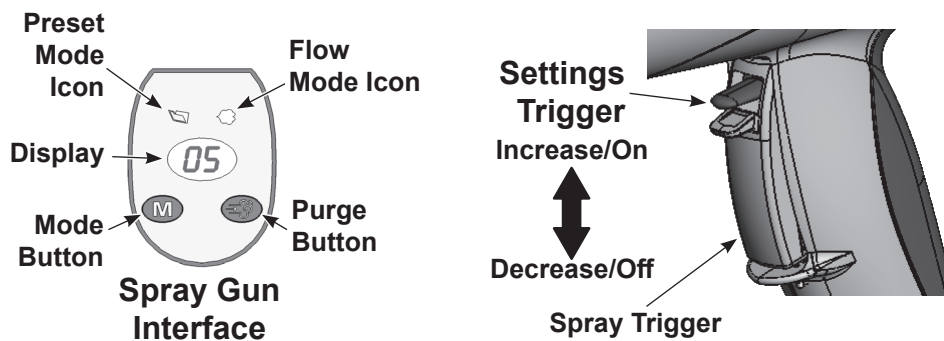

Figure 4 Gun Controls
1. See Figure 4. Release the spray trigger. Presets cannot be changed while the gun is triggered on.
1. See Figure 4. Press and hold the **Mode** button until the **Flow Mode** icon is lit.
1. See Figure 4. Point the gun into the booth and release the spray trigger.